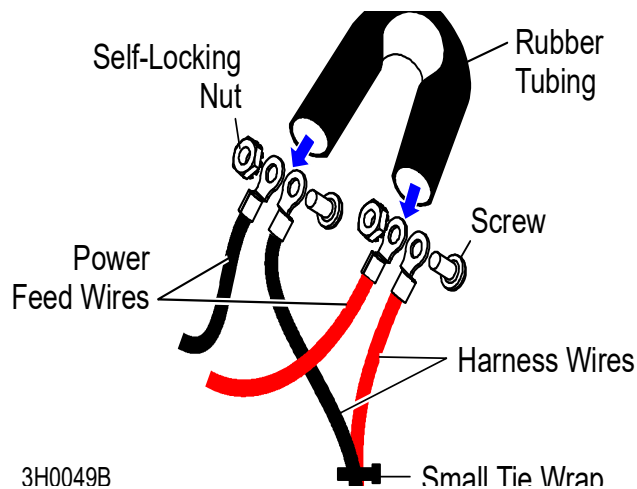

FIG. 1-19
See Figure 1-19. To connect, bundle the four harness wires together with the small tie wrap. Connect the blue power feed wire to the blue harness wires with a screw and a self-locking nut. Connect the green power feed wire to the green harness wires with a screw and a self-locking nut. Slip one end of the neoprene tube around each wire/harness connection. Secure the tubing around the connections with the large tie wrap.
6. Install the female harness through the control box grommet. Use the small tie wrap to bundle the four harness wires together as shown. Connect the blue and green power feed wires to the respective blue and green harness wires with the screw and self-locking nut provided. Slip the supplied neoprene tube around both wire/harness connections as shown. **See Figure 1-19**. Keeping the tubing folded tight, use a large tie wrap to secure the bundled connection to the yellow, red and brown wire harness in the control box. Tuck the excess length of wires into the left front corner of the control box and replace the control box cover.